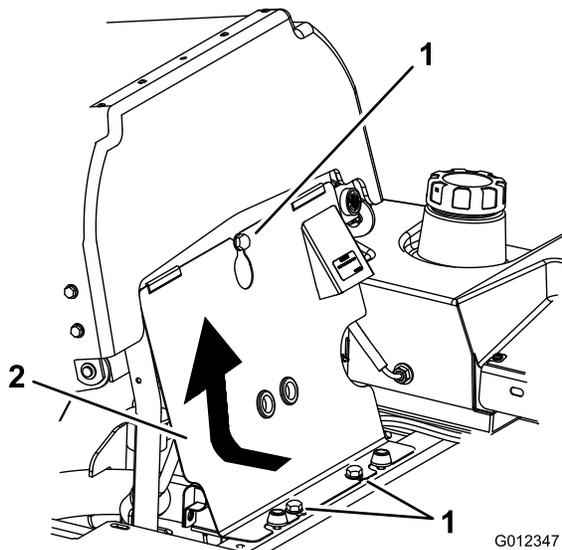

Figure 40
1. Tilt the seat forward, loosen the bolts holding the front engine panel and remove it (Figure 40).